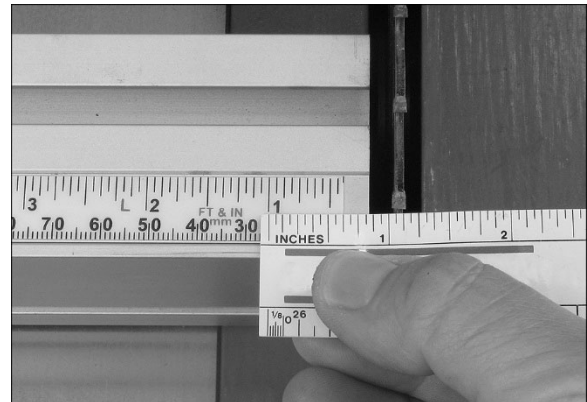

Figure 8-12
2. Loosen fence handles on angle clamp and pivot post, and slide fence to approximately 1/8-inch from blade, as shown in Figure 8-12.
3. Use a separate scale to measure 1-inch from the edge of a blade tooth. (Use tooth edge instead of flat blade surface, to account for actual cut width) See Figure 8-12.